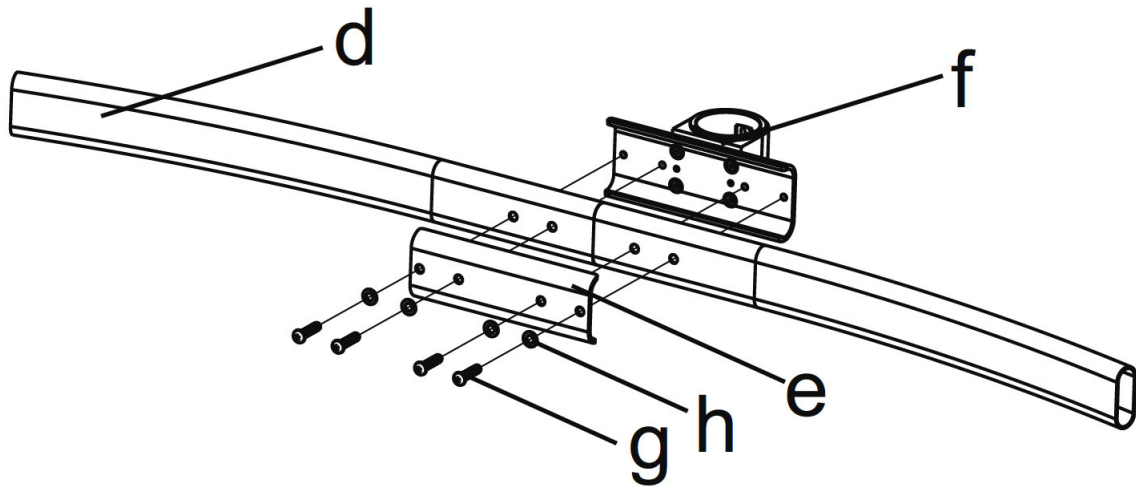

Figure 2a
1. Assemble the **Curved Arms (d)**, **Arm Connector Plate (e)**, **Arm Clamp (f)** and fasten with **M6x25 Bolts (g)** and **M6 Washers (h)** using **Allen Key (o)** as shown in **Figure 2a**.